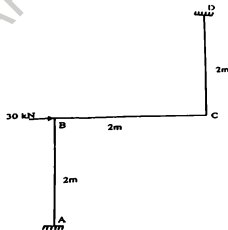

Figure 1
- 11 Draw the moment diagram for the frames as shown in Figure 1. Keep EI as constant for all the members. Use the slope deflection method for analysis :